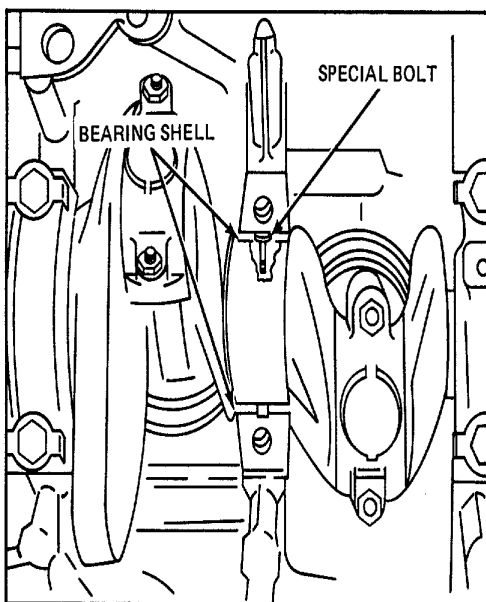

Figure 2. Removing Upper Main Bearing Shell (Except Rear Main)
a. To remove all except the rear main bearing shell, insert a 1/4 x 3/4-inch long bolt with a 1/2-inch diameter and 1/16-inch thick head (made from a standard bolt) into the crank- shaft journal oilhole. Then revolve the shaft to the right (clockwise) and roll the bearing shell out of position as shown in Fig. 2. The head of the bolt must not extend beyond the outside diameter of the bearing shell.